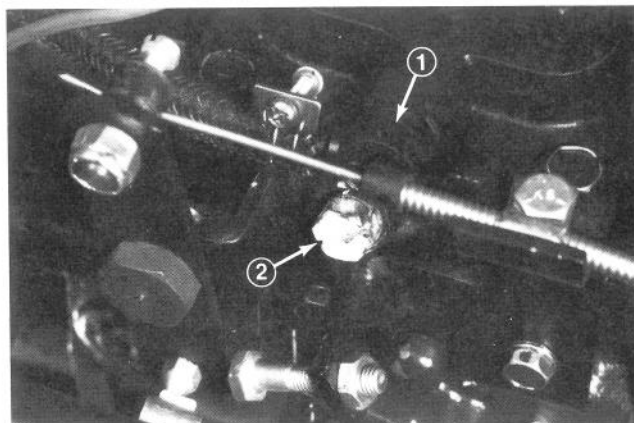

Figure 27
4. Open the air bleed screw on the fuel injection pump (Fig. 27) with a 12 mm wrench.